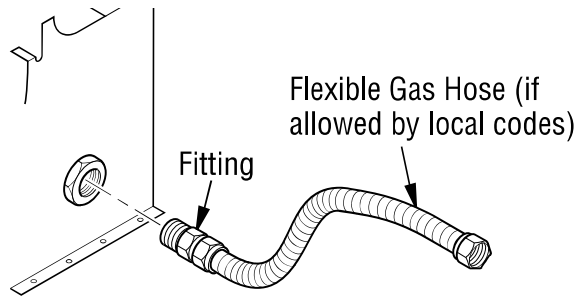

Figure 11 - Attaching Flexible Gas Hose to Heater
1. Connect approved flexible gas hose to gas control fitting in heater (see **Figure 11**, **Page 12**).